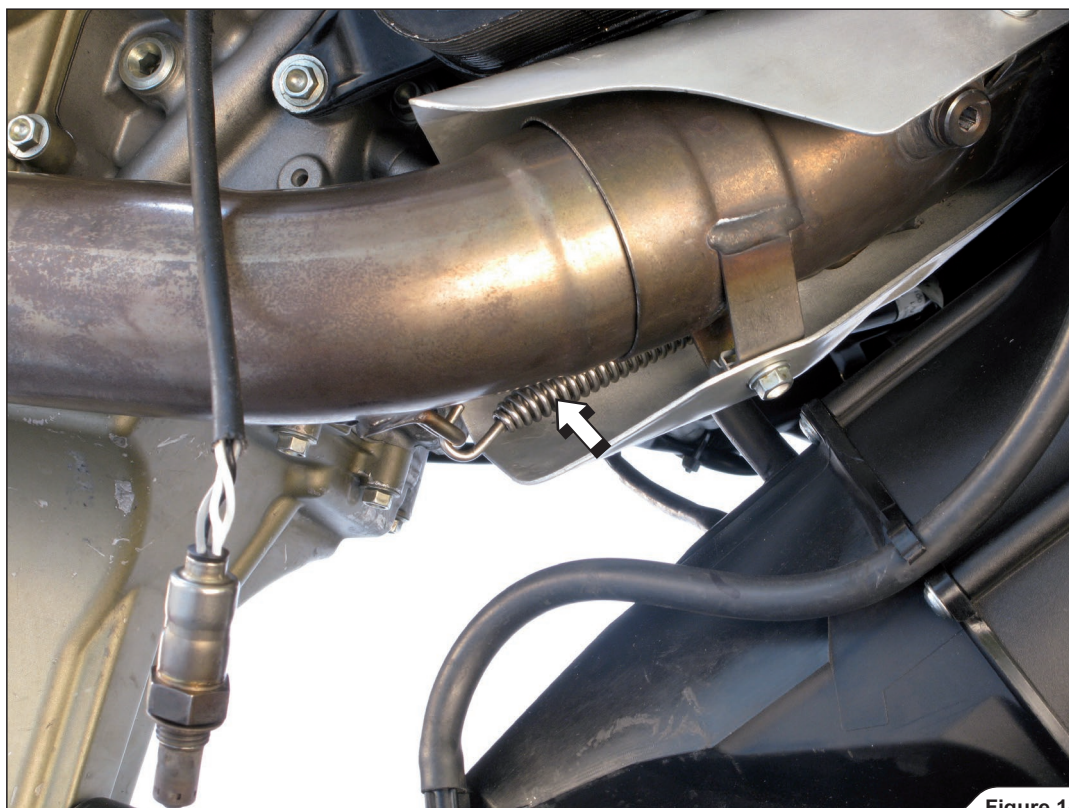

Figure 14
10. Unhook the marked front header's spring (Figure 14).